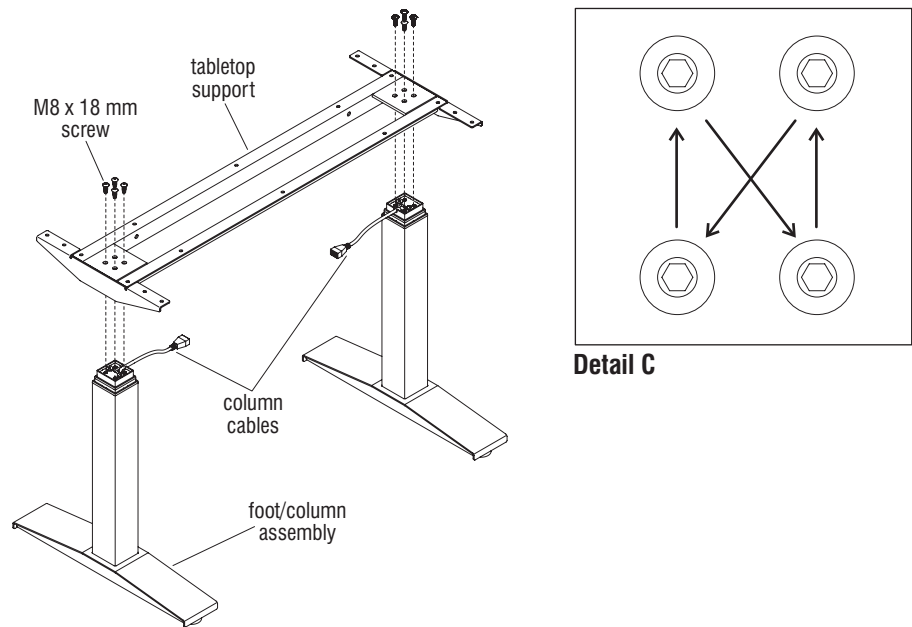

Figure 2
1. With the assistance of a second person, hold both foot/column assemblies in the upright position, orienting the two column cables inward as illustrated (Figure 2).
2. Position the tabletop support onto the foot/column assemblies and align the four holes in one end of the support with the four holes in the column (Figure 2).
3. Attach the tabletop support to the column using four M8 x 18 mm screws until snug, then tighten each screw one quarter turn at a time in a diagonal pattern until all four screws are tight (Figure 2 & Detail C).
4. Attach the second foot/column in the same manner (Figure 2).